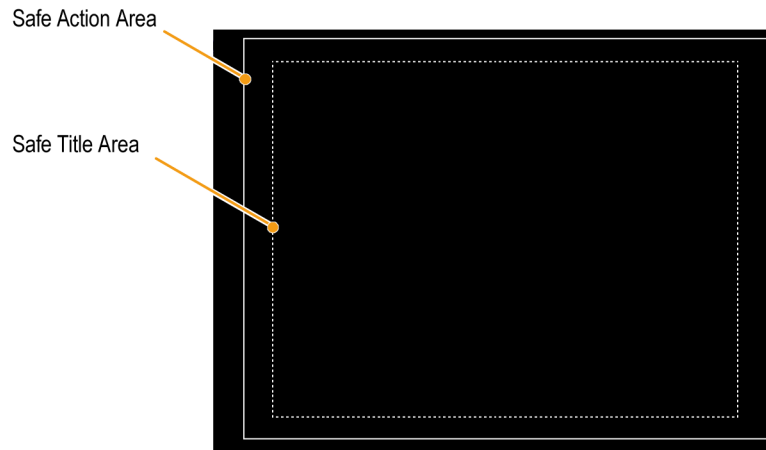

Figure 90: Safe Action and Safe Title areas
- The Safe Action Area shows the maximum image area within which all significant action should be contained; the Safe Title Area shows the maximum image area within which all significant titles should be contained. (See Figure 90.)